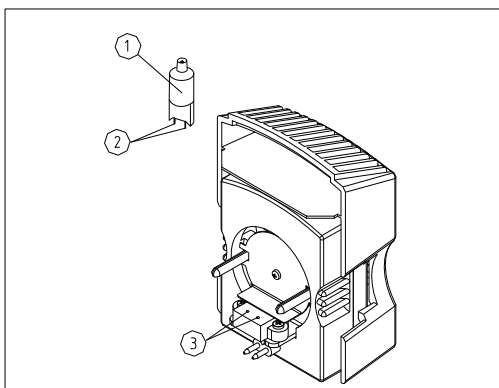

Fig.16
2. Hold to the bulb ① after you wrap it with gauze or other protection materials, then depress the plugs ② fully into the jack ③ on the lamp house as the picture show. (Fig.16)